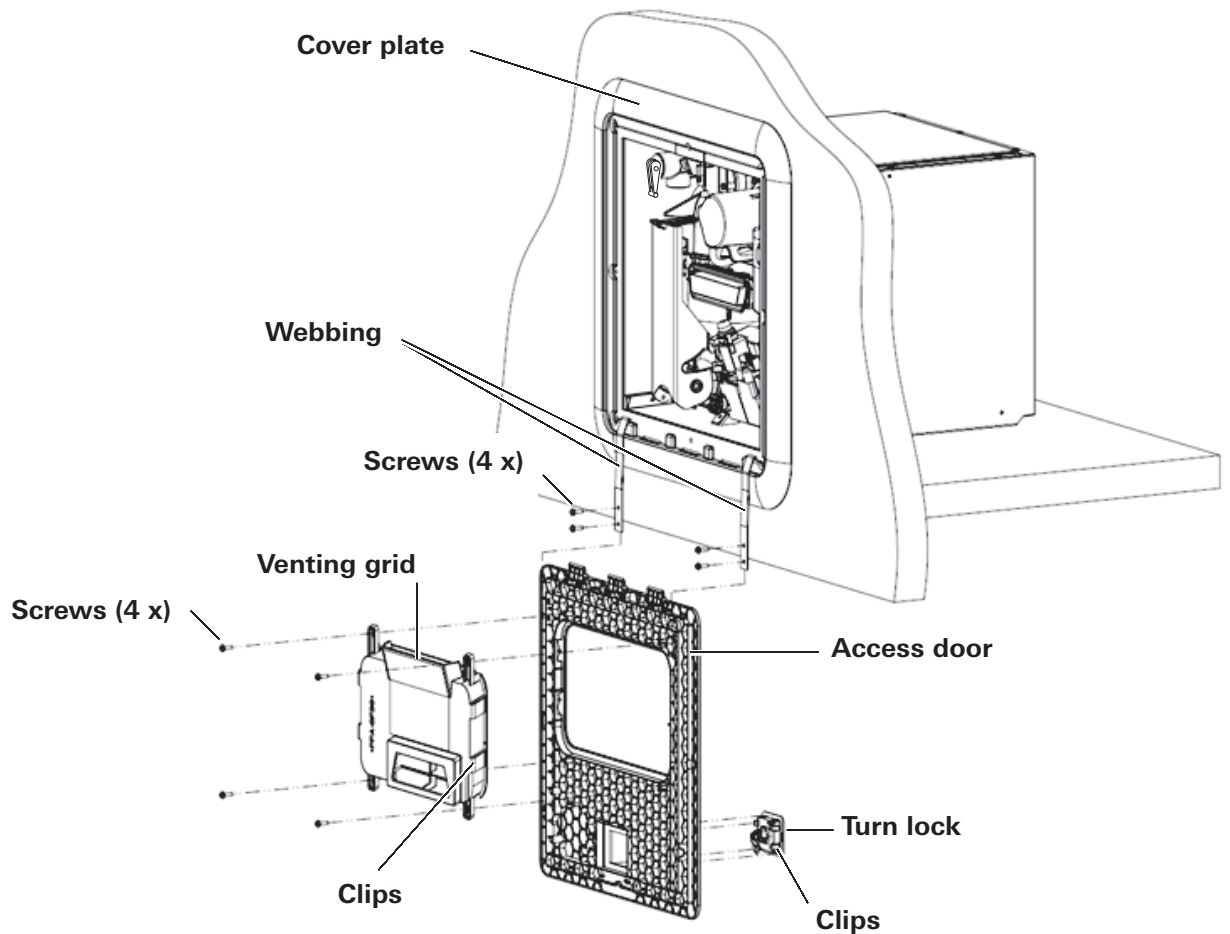

Fig. 37
### The following parts (see Fig. 37) must not be painted:
- After removing the screws, depress the four (4) clips on the side of the ventilation grille and remove it as shown in Fig. 37.
To remove the turn lock, depress the four (4) clips and remove it as shown in Fig. 37.